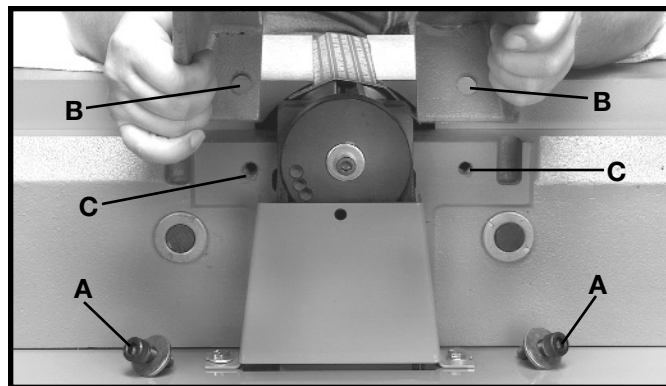
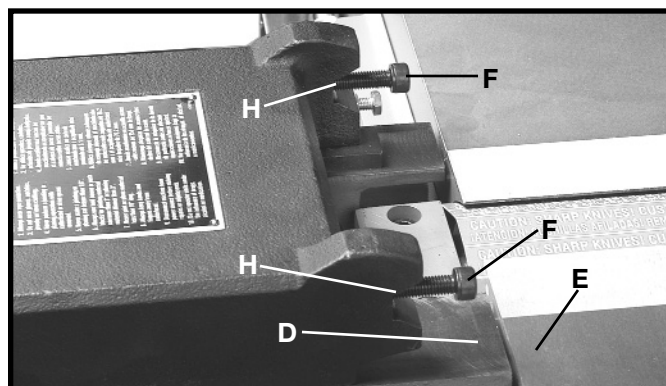

Fig. 11
Fig. 12
1. Remove the two M10x1.5x30mm hex socket head screws (A) Fig. 11, and 10mm flat washers from the back of the jointer base at location (C).
2. Align the two holes (B) Fig. 11, in the fence carriage assembly, with the two tapped holes (C) in the back of the jointer base. Insert the M10x1.5x30mm hex socket head screw with a 10mm flat washer, through the hole in the fence carriage assembly and thread the screw into the tapped hole in the back of the Jointer base. Repeat this process for the remaining hole in the fence carriage assembly and the tapped hole in the back of the Jointer base. **NOTE: THE TOP SURFACE (D) FIG. 12, OF THE FENCE CARRIAGE ASSEMBLY MUST BE LEVEL WITH THE TOP SURFACE (E) OF THE OUTFEED TABLE.** Once the fence carriage assembly is level with the outfeed table, tighten the two screws (A) Fig. 11 securely with an 8mm hex wrench.
1. Remove the two M8x1.25x30mm hex socket head screws (F) Fig. 12.
2. Align the two holes, one of which is shown at (G) Fig. 13, in the fence with the two holes (H) Fig. 12, in the fence carriage assembly. Insert the screw through the hole in the fence and thread the screw into the tapped hole in the fence carriage assembly and tighten securely with a 6mm hex wrench. Repeat this process for the remaining hole in the fence and fence carriage assembly.